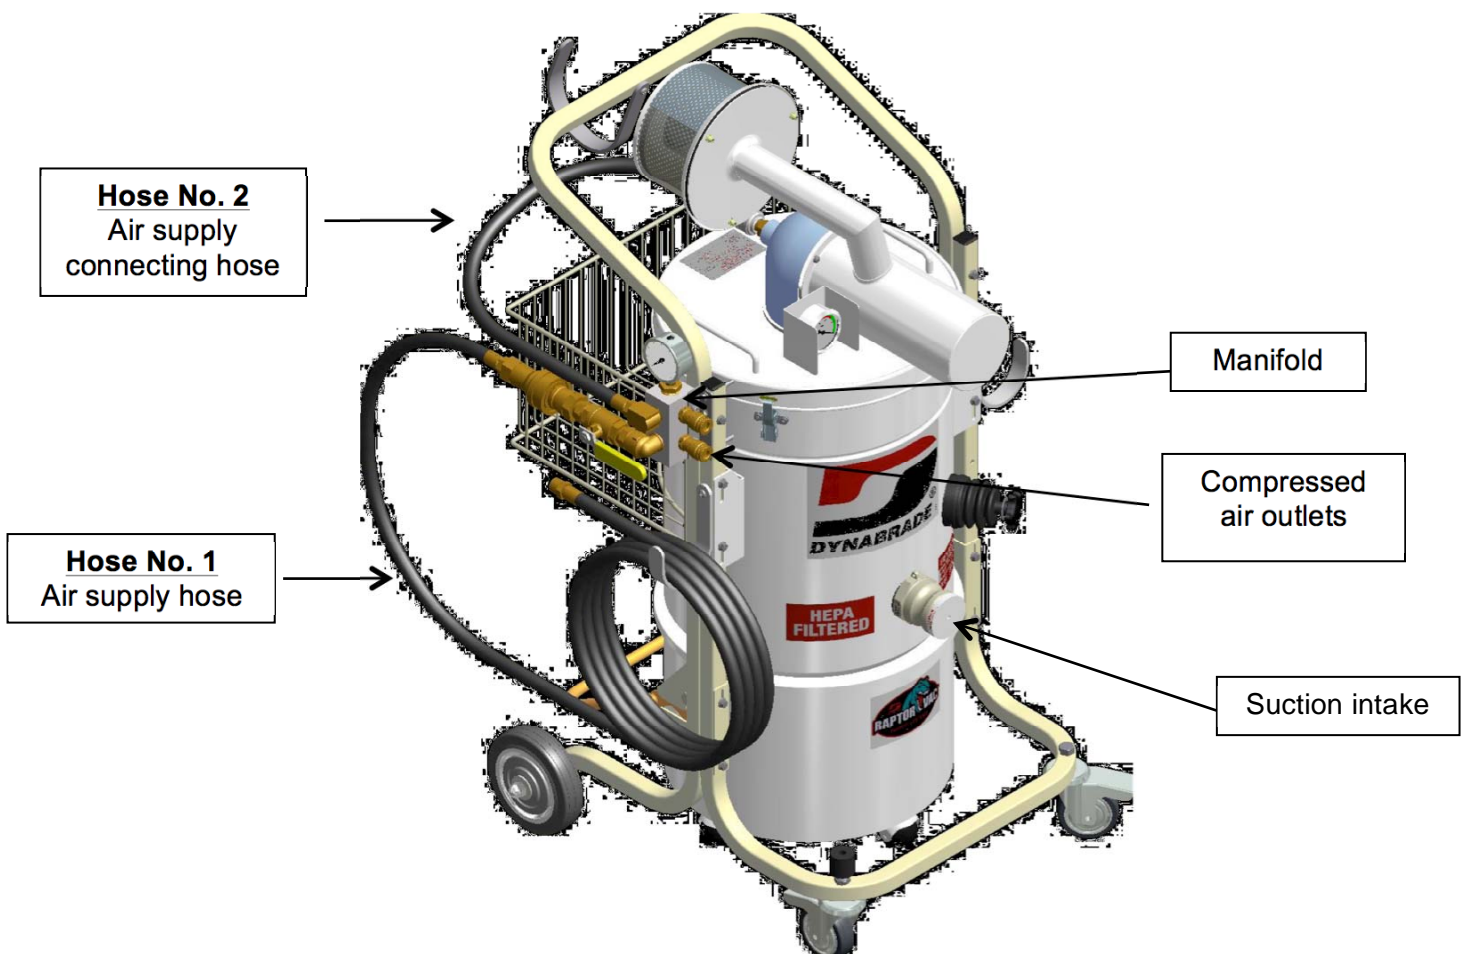

Figure 1
- h. Make sure the air supply hose (see hose No.1 on Fig. 1) is connected to the manifold (see Fig. 1) placed on the side of the vacuum cleaner
- i. Make sure the air supply connecting hose (see hose No.2 on Fig. 1) makes the connection between the manifold (see Fig. 1) and the suction intake on the powerhead.
- j. Connect one or two suction / air supply hose(s) to the suction intake(s) (see Fig. 1) on the vacuum cleaner. If using only one suction hose with the vacuum cleaner, close the unused suction intake with the storage plug to prevent loss of suction.
- k. Connect the static dissipating suction / air supply hoses to the compressed air outlet on the manifold (see Fig. 1).